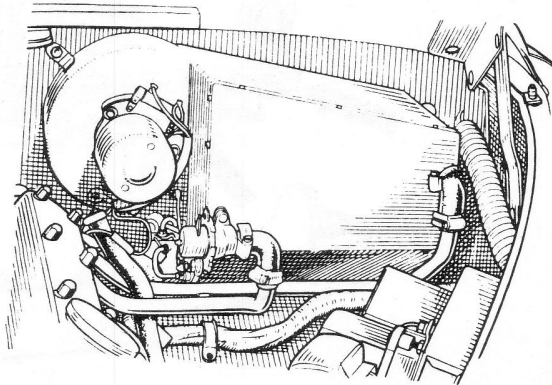

Fig.12.29. The heater unit and water control tap
### 28 Heater unit (Fig.12.29) - removal and refitting
- 2 Refer to Fig.12.29 which shows the location of the tap.